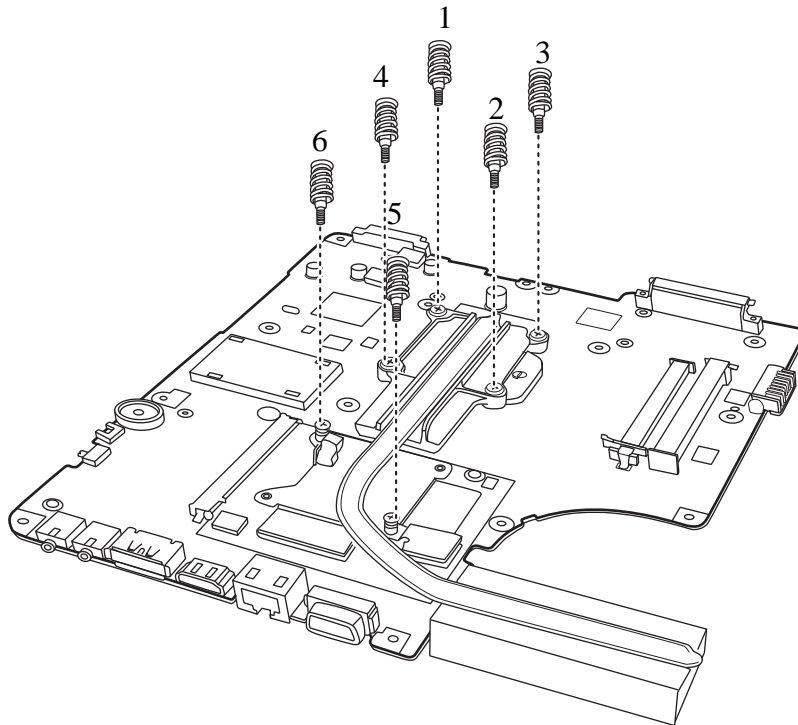

Figure 4.24 Removing the Thermal Module
Remove the thermal module and VGA board according to the following procedures and Figure 4.24, 4.25.
1. Remove six spring screws securing the thermal module to the motherboard, according to the number sequence sealed on the thermal module. Please follow the sequence indicated in Figure 4.24.